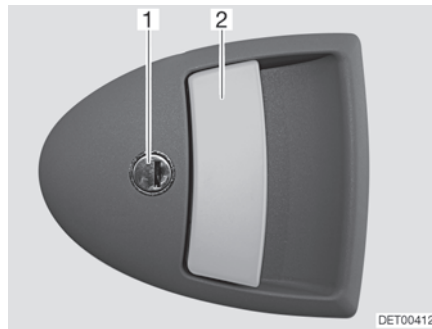

Fig. 34 Door lock of conversion door, outside
- Insert the key into locking cylinder (Fig. 34,1) and turn until the door lock is unlatched.
- Pull on the door handle (Fig. 34,2). The door is open.
- Insert the key into locking cylinder (Fig. 34,1) and turn until the door lock is engaged.